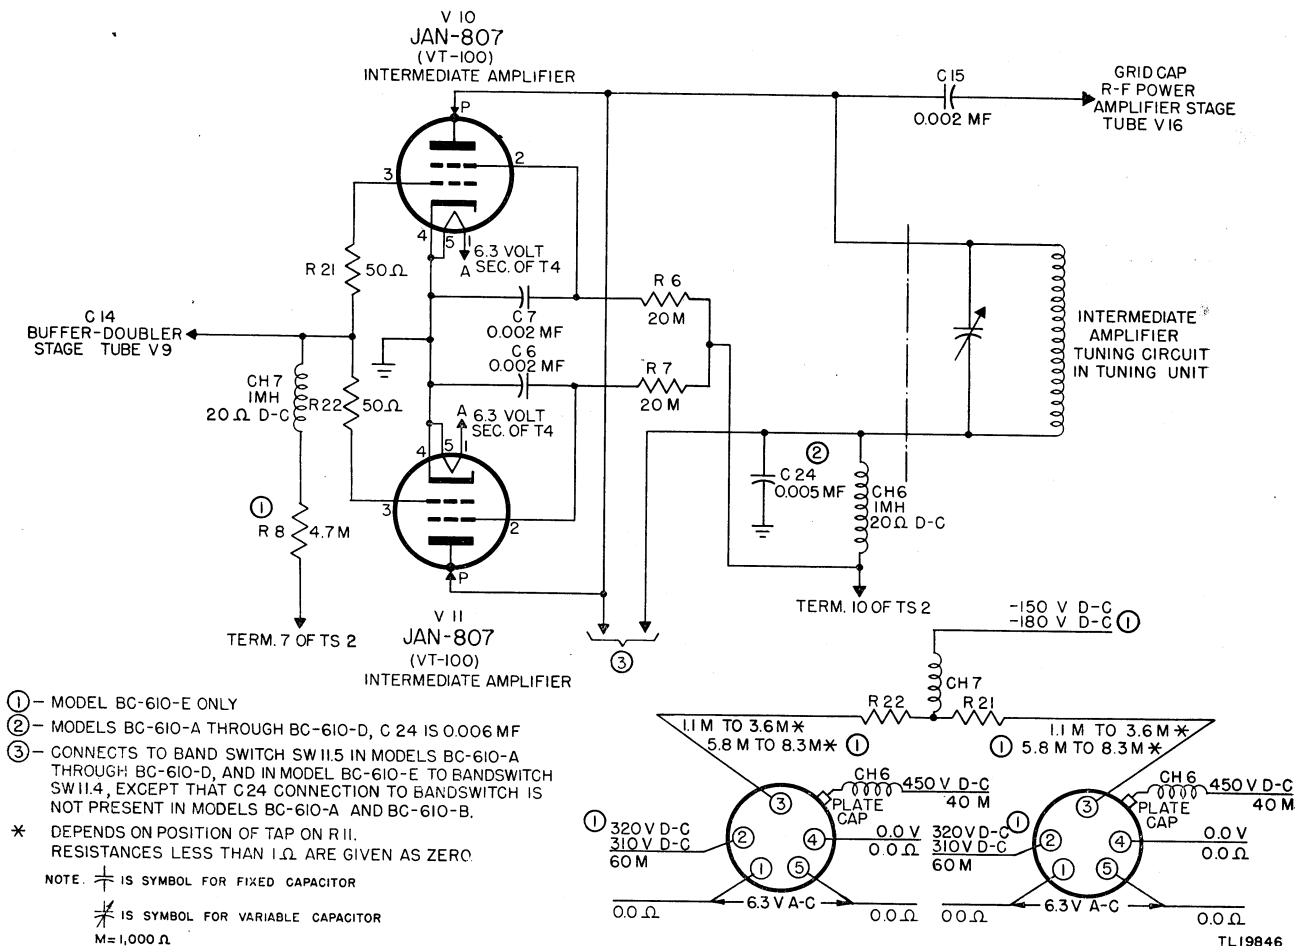

Figure 30. Radio Transmitter BC-610-(*), r-f intermediate-amplifier stage, schematic wiring diagram.
27. R-F Intermediate-Amplifier Stage (fig. 30)